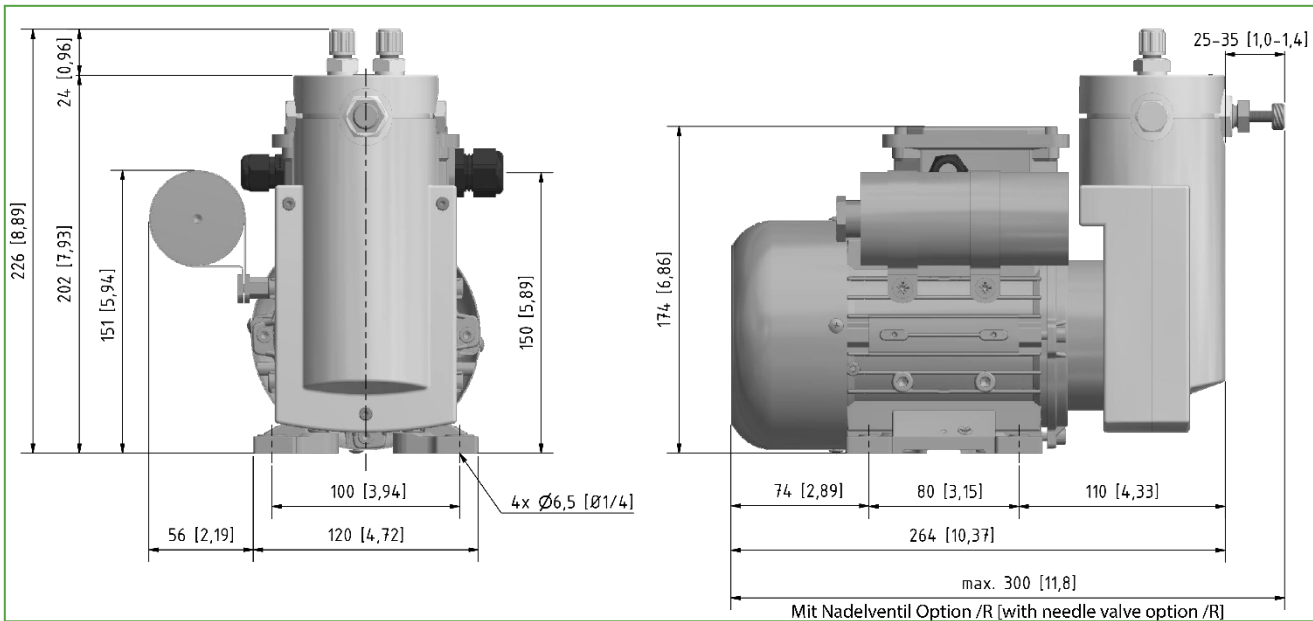

Figure 4 Dimensions MP-F.../R/EX
- Mount the pump through the four 6.5 mm [≈ 0.26 "] holes located in the base of the pump. If vibrations are likely to occur at this location, use vibration control air springs to de-couple the vibration source. Screw the pump tightly to the ground. For dimensions, please see Figure 4 on page 15. For sufficient supply of cooling air, the pump needs to be mounted at least 40 mm [≈ 1.57 "] apart from the wall.